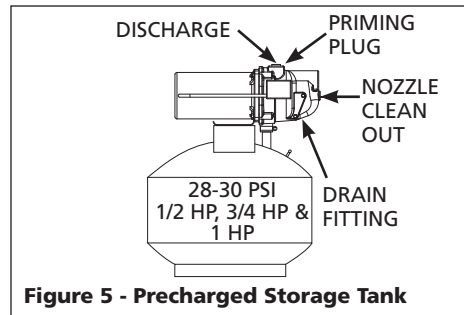

Figure 5 - Precharged Storage Tank
1. Remove drain plug and prime plug to vent the system (see Figure 5 on page 3).